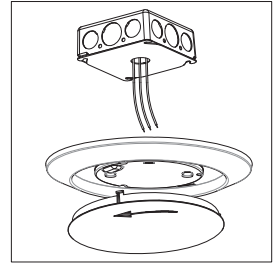

FIG.1
2. Remove the Lens by turning it counter clockwise (FIG.1)
- Remove the Lens by turning it counter clockwise (FIG.1)